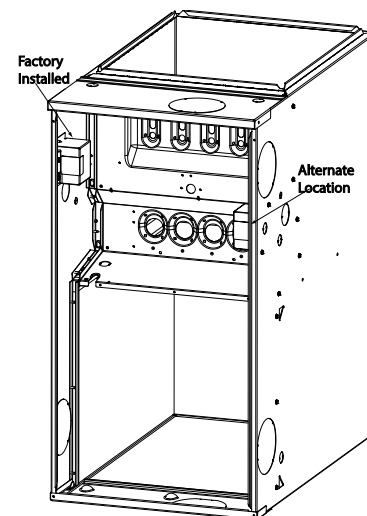

Fig. 26 – Relocating J-Box
1. Remove and save two screws holding J-Box. (See Fig. 26).
NOTE: The J-Box cover need not be removed from the J-Box in order to move the J-Box. Do NOT remove green ground screw inside J-Box. (See Fig. 26).
4. Remove and save two screws holding J-Box. (See Fig. 26).